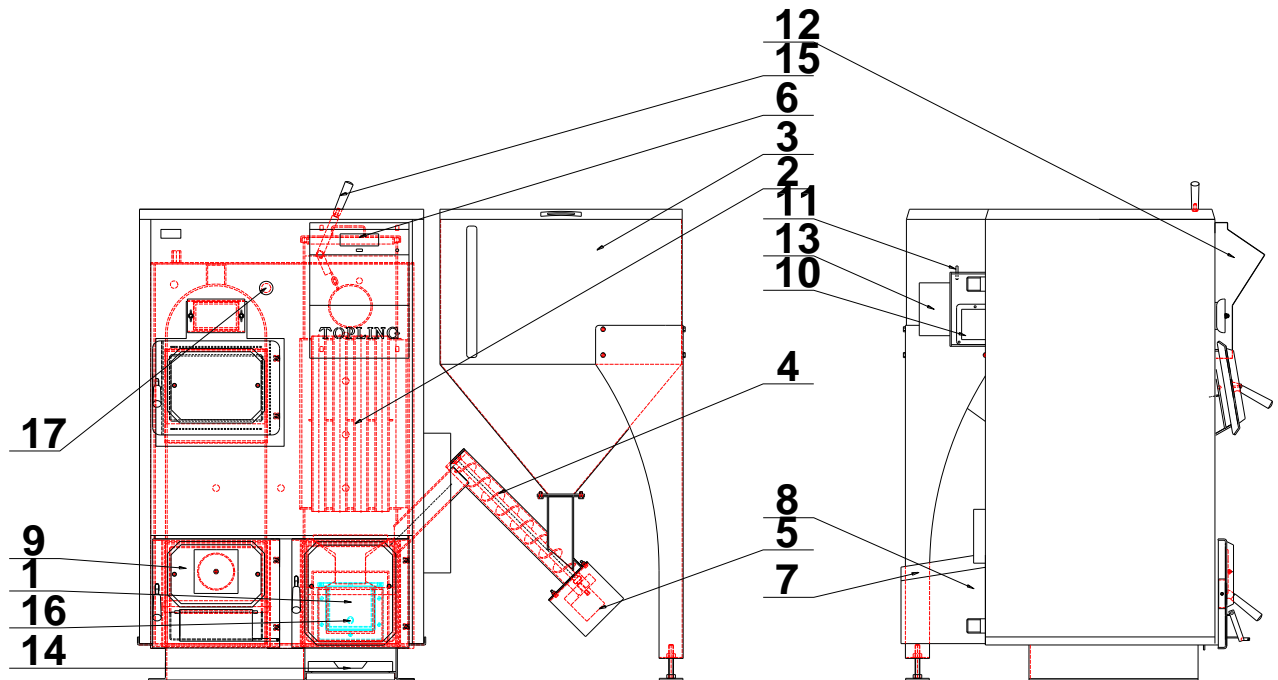

Figure 1. Parts of boiler
From pellet reservoir **Fig.1 pos.3** a screw conveyor **Figure 1 position 4** inserts pellet into firebox **Fig.1 pos.1**.
Electric heater, which is located in the firebox **Fig.1 pos.16** is used to fire pellets. This occurs only in the initial stage of commissioning of the boiler in operation and after a long break.
Fan **Fig.1 pos.8** supports pellets burning in a way that it leads required amount of oxygen for combustion into firebox.
In this case, the furnace firebox for wood or coal is active. The fire is put manually to the lower door (Figure 1 position 9). Firing chopped wood or coal is done through the upper door of the boiler. In this case, automated functions of boiler are off. Feeding the boiler is done manually and fuel should be filled every 2 to 5 hours, depending on the quality of the wood (coal). Draught regulator (not supplied with the boiler) is set to the desired temperature of boiler water which should be within the limits of between 60-90 °C.